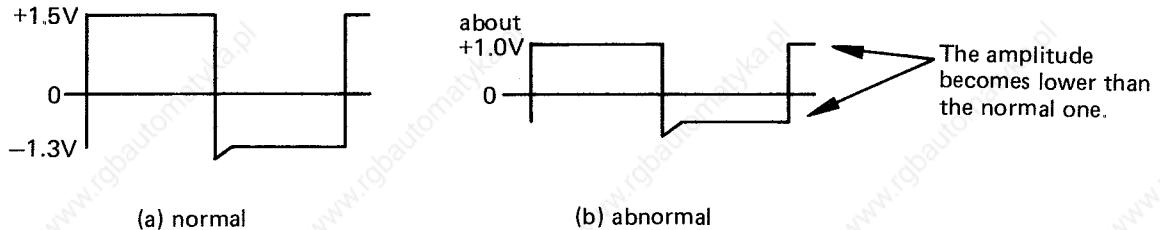

Fig. 6.5.6 B-E Waveform of Power Transistor
Under the condition of the driving of the inverter, inspect and check the voltage waveform between the emitter (E) and the base (B). If the power transistor is in its normal operations, the inspected waveforms is like Fig. 6.5.6 (a). If it is not normal, the amplitude of the waveform is somehow lower than the normal one as shown in Fig. 6.5.6 (b).